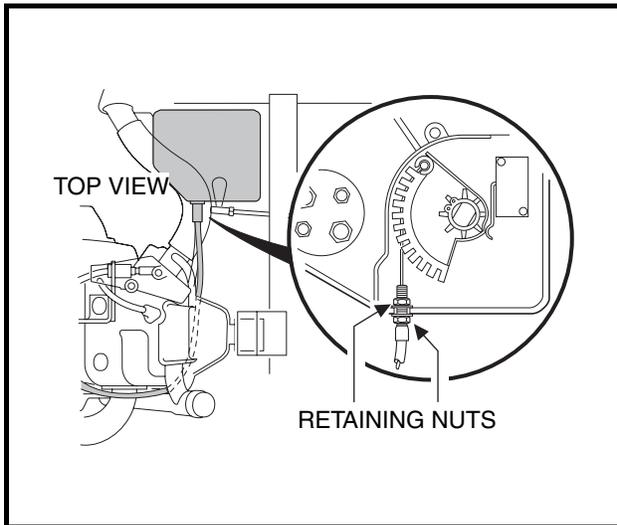

Figure 16-13 Throttle Cable
- 4.5. Remove the cover from the electrical component box. Then loosen the hardware securing the accelerator cable to the box. Disconnect the cable from the actuator cam and remove it from the box (**Figure 16-13, Page 16-9**).